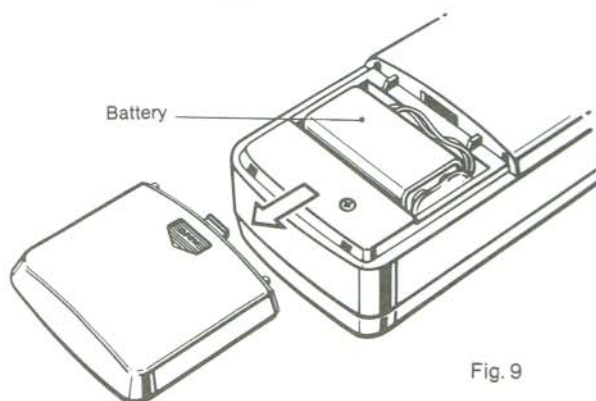

Fig. 9
- (1) Disconnect the test leads from the instrument and set the function/range switch to OFF position.
- (2) Replace the battery by sliding the battery compartment cover in the direction of the arrow (Fig. 9).
- (3) Install a new battery Type PP3, 6F22, 006P 9 V (or equivalent) dry battery.